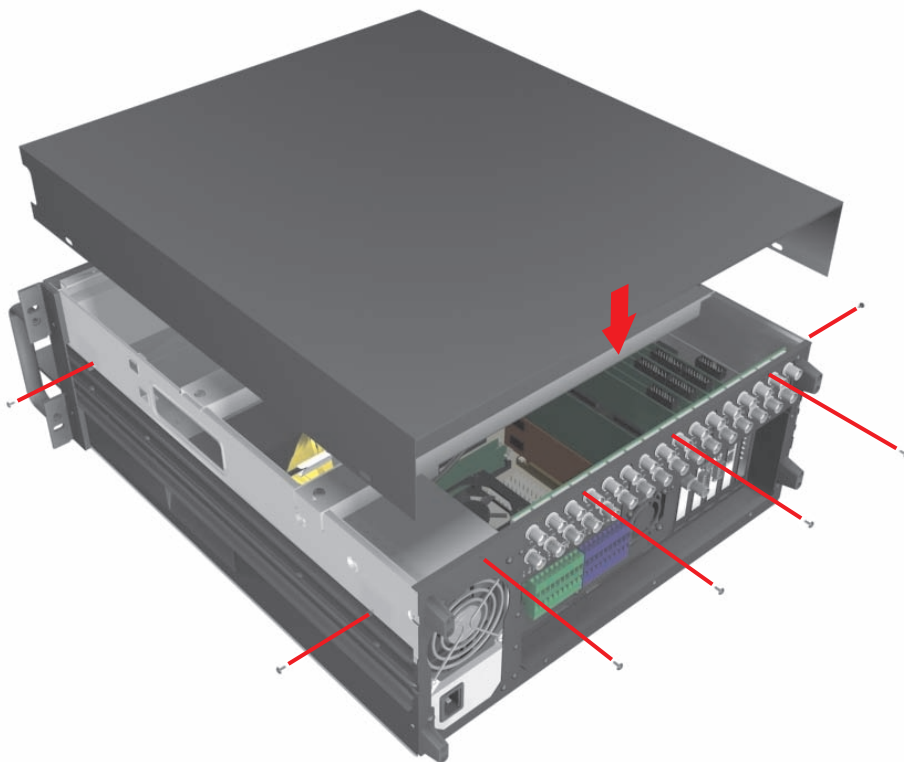

Figure 20. Replacing Chassis Cover
2. Replace the chassis cover using the same screws you removed from the side and rear of the unit. Refer to Figure 20.